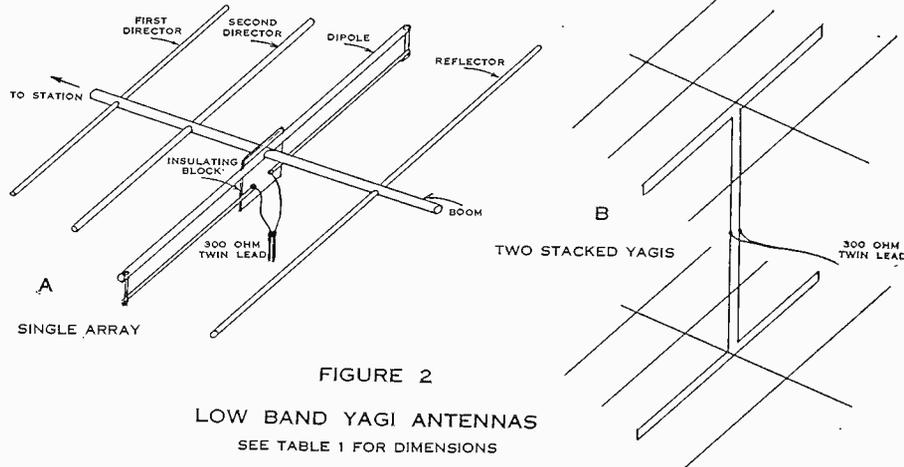

FIGURE 2
*NOTE 2—To stack two antennas vertically, make the dipole of ¾ and ⅜ diameter tubing and space 1¼" center to center. See Figure 2.
temporarily on the tower for a two-month period. The design features of the four element Yagis are shown in Figure 2 and the formula used in determining the dimensions is shown in Table 1. Preliminary measurements indicated that the antenna should be cut for the low frequency end of the band to center its maximum gain at the frequency of the video carrier. The impedance of the antenna using an ordinary folded dipole as the driven element is roughly 100 ohms. By using conductors of different size in the folded dipole it is possible to step this up to 300 ohms or some other desired value. By stepping up the impedance to 150 ohms, two arrays can be conveniently stacked and matched using ordinary 300 ohm twin lead to interconnect the arrays.